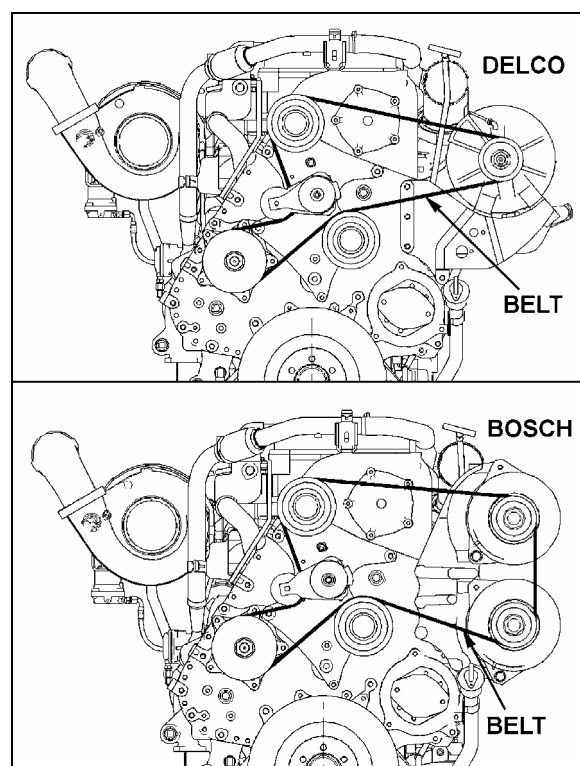

FIGURE 24: ALTERNATOR DRIVE BELT
1. Insert a 3/4 inch socket drive into one of the tensioning arm opening (Fig. 24).